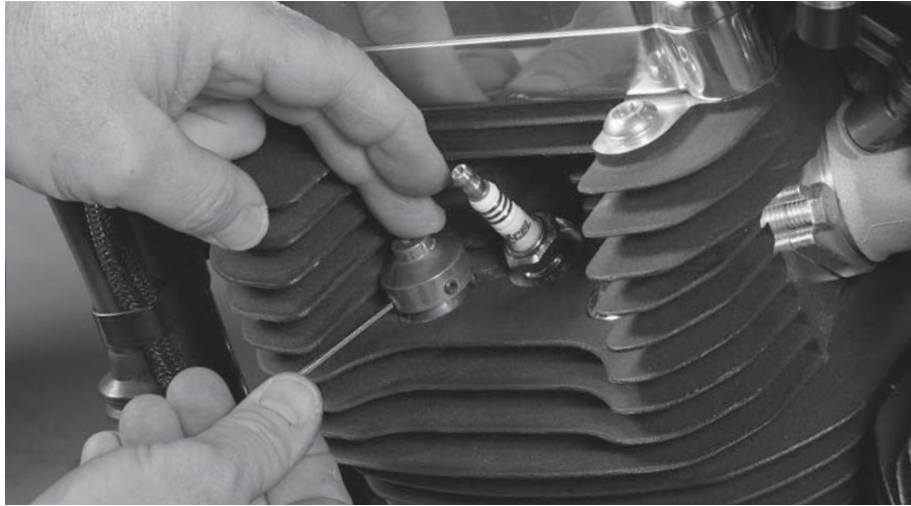

Figure 2
3. Apply a small amount of the supplied blue thread lock to the (8) set screws and loosely install (2) set screws into each of the (4) cast aluminum head stud mounts.
4. Place the cast aluminum head stud mounts on top of the 4 exposed head studs and fasten the set screws securely using the provided 3/32" hex key wrench (**figure 2 on pg 2**).
5. Install one ignition coil assembly (#1) into the cast aluminum coil cover (#2) using 2 socket head cap screws (#5), applying blue thread lock (#7). Use the 5/32" hex key wrench to tighten them securely (**figure 2 on pg 2**). Route the coil wires thru the notch in the cast coil cover. Repeat the same steps for the second coil assembly.